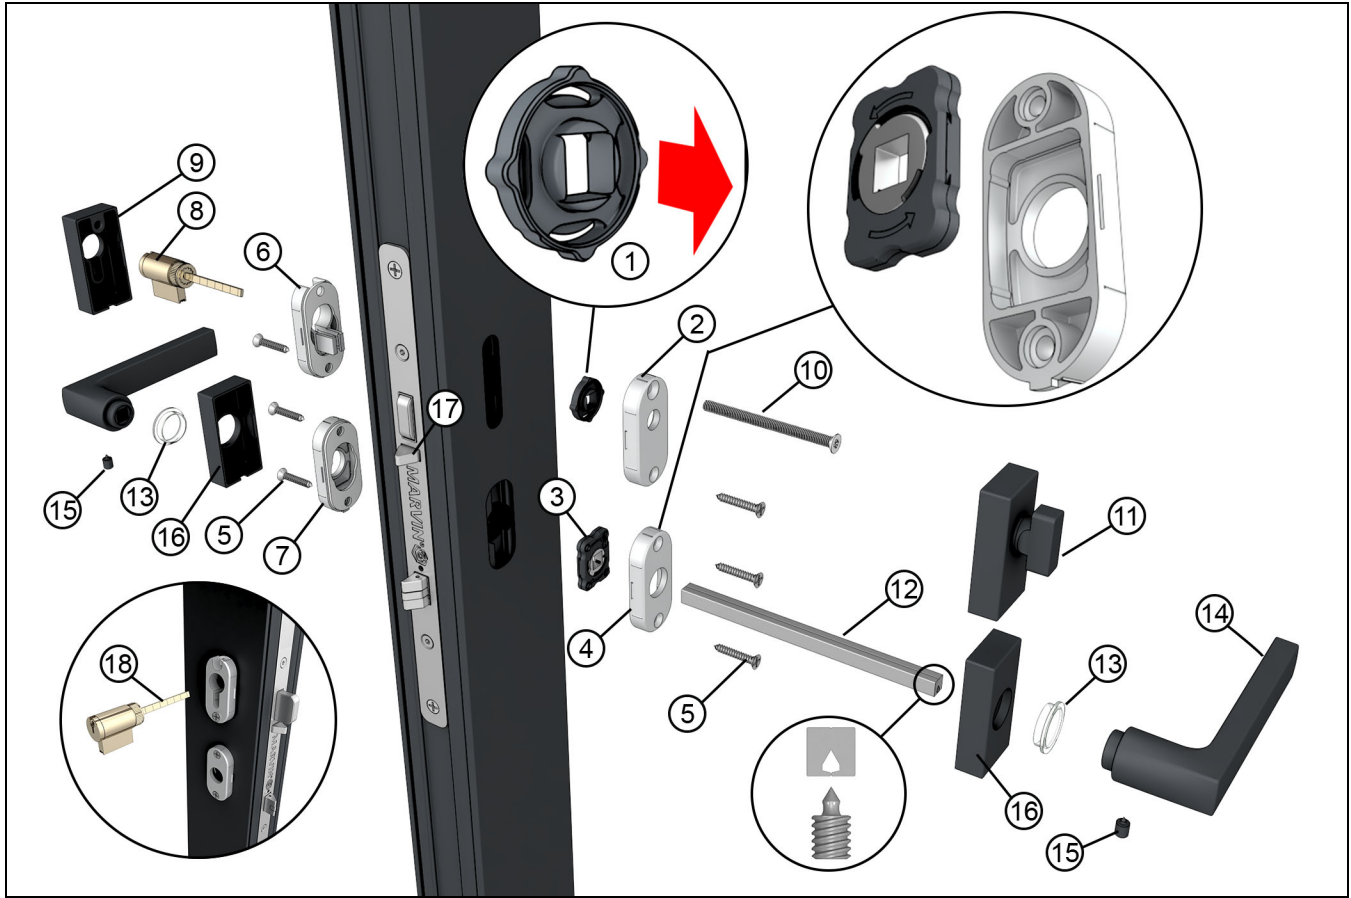

Figure 1
2. Fit the lever assist spring into the interior handle mounting base. Note the arrows must be oriented in the same direction as your handle will rotate to unlatch the door (see inset in Figure 1).
3. Screw the mounting bases to the panel using the short sheet metal screws. Ensure the small plastic tabs are orientated downward. (See inset Figure 1, base is shown from the back side). The mounting bases with gaskets will go on the exterior.